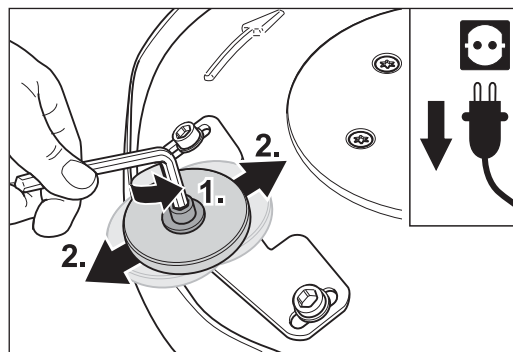
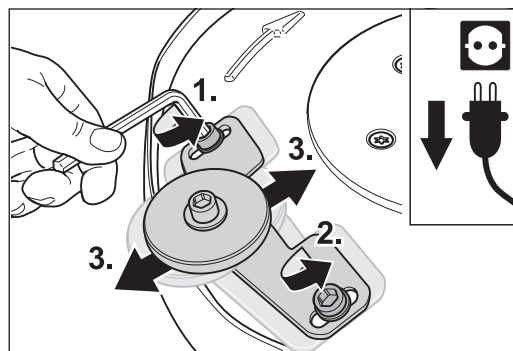

Fig. 26 Undo the screw in the centre of the wall-protecting wheel and then position the wheel.
Fig. 27 Undo the screws on the wall-protecting wheel bracket.
- 3 Use an Allen key to undo the screw in the centre of the wall-protecting wheel and then move the wall-protecting wheel into the desired position (Fig. 26). Tighten the screw again. You can also increase the adjustment distance of the wall-protecting wheel by undoing the two screws with which the wall-protecting wheel bracket is fastened to the attachment (Fig. 27, 1. + 2.).
- 4 Move the wall-protecting wheel bracket into your desired position (Fig. 27, 3.) and then tighten the screws again.